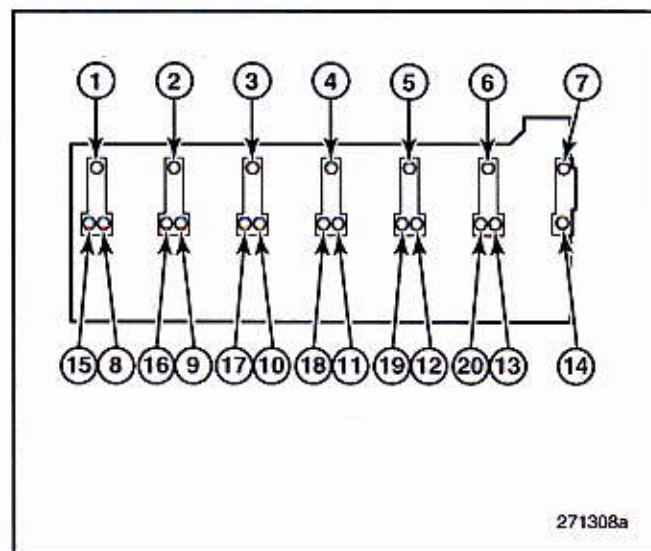

**Figure 279 — Rocker Arm Shaft Screw Installation Sequence**
5. Insert the long fasteners (Nos. 8–20 in Figure 279) through the shaft, camshaft bearing caps and into the cylinder head.